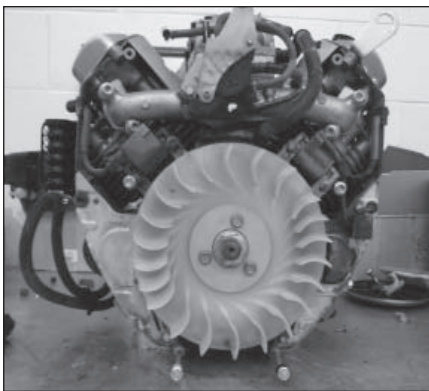

Figure 3 - Fan Shroud Removed
4. Remove the 2 10 mm bolts and 4 10 mm nuts holding the fan shroud to the engine and remove the shroud. See Figure 3